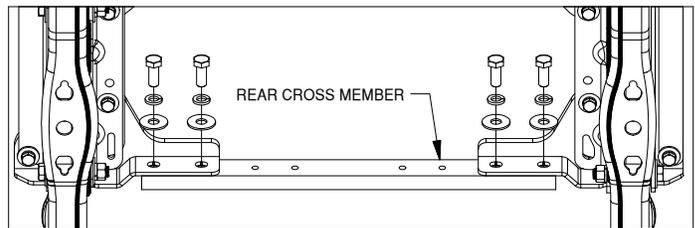

Figure C4: Bottom of truck frame looking up from under the cab towards the back of the truck.
7. Install rear cross member. Attach the rear cross member to the cross member brackets as shown in Figure C4 with 5/8" x 1-1/2" bolts, lock washers, and flat washers.